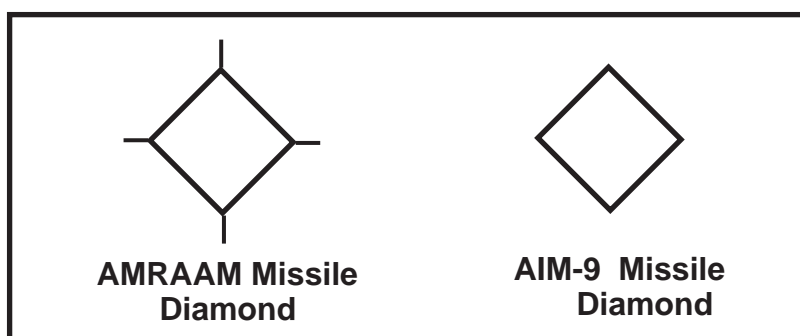

Figure 4-8 AMRAAM and AIM-9 Missile Diamonds
- **Missile Diamond Symbol on HUD.** A unique AMRAAM missile diamond called the hairy diamond has been incorporated on the HUD. The hairy diamond is a typical AIM-9 missile diamond but with small lines emanating from each corner. The hairy diamond makes the AMRAAM missile diamond easily distinguishable from the AIM-9 missile diamond as shown in Figure 4-8 below.